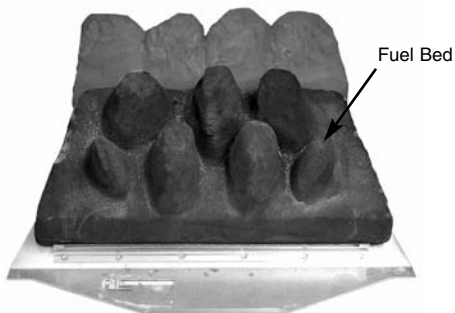

Fig. 42
2. Place the main fuel bed on to the middle section of the metal burner tray. It is important that the front edge of the fuel bed is located behind the burner strip (Fig. 42).